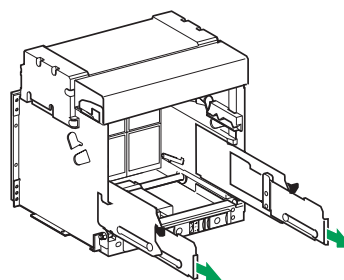

Fig. 33
- Pull on the rail extraction handles (see Fig. 33).